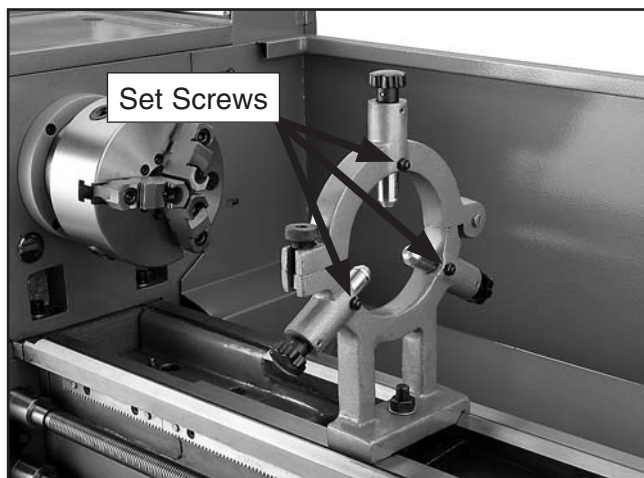

Figure 38. Steady rest adjustments.
2. Loosen the three set screws so the finger position can be adjusted (see **Figure 38**).